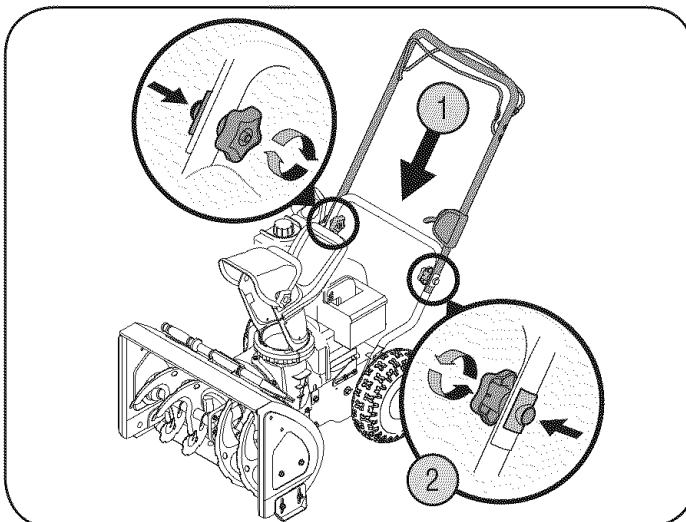

Figure 3
5. Insert a carriage screw from the outside through a handle tab, the upper and lower handles, and into the star knob (2). Repeat on the other side.
6. Tighten the star knobs on each side of the handle. Refer to Figure 3.